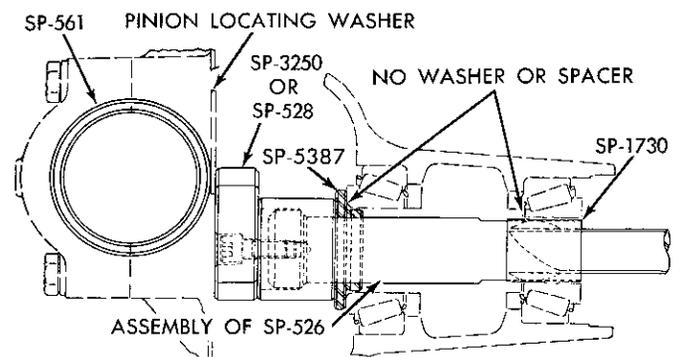

Fig. 26—Tool C-758-D4 Installed in Housing (8-3/4 Large Stem Pinion)
(1) Assemble spacer SP-5387 to main section of tool followed by spacer SP-1730. Install rear pinion bearing cone over spacer SP-1730 and against spacer SP-5387 (Fig. 26).
(2) Insert assembly into carrier and install front pinion bearing cone over tool shaft and in its proper